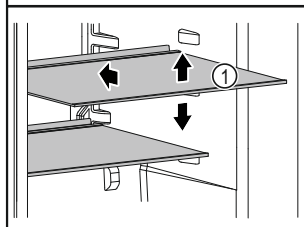

Fig. 67 Example illustration
- If storage surfaces Fig. 67 (1) are movable, adjust them according to height.